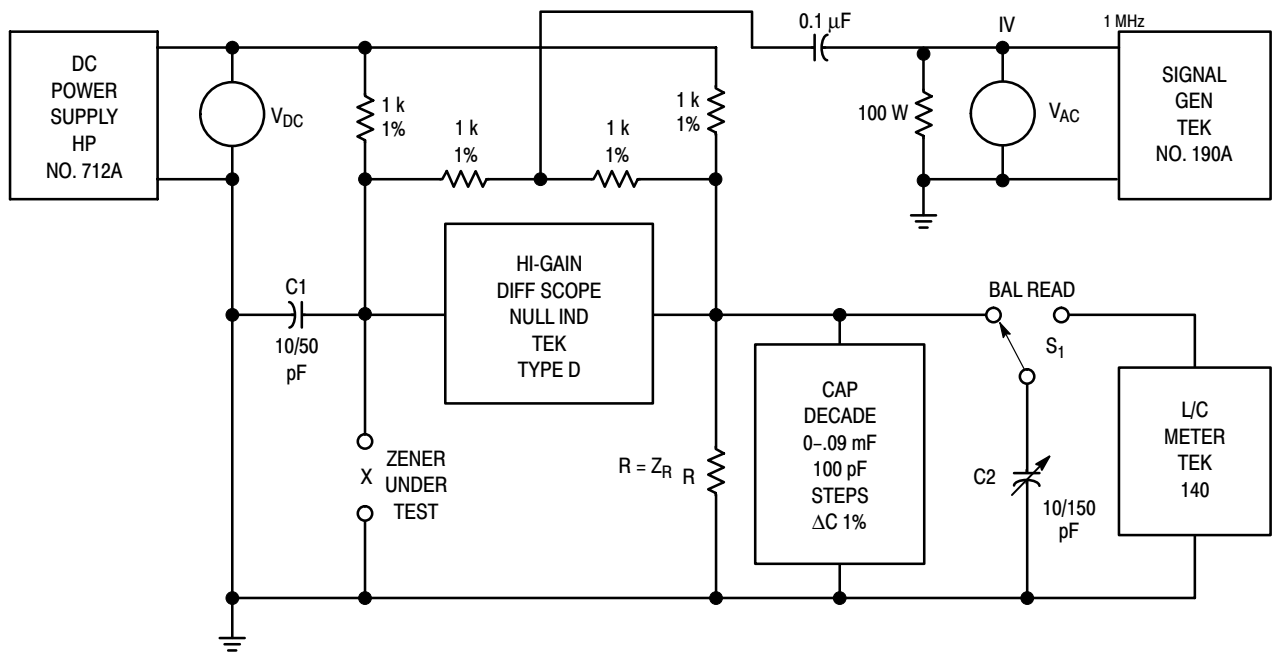

Figure 20. Capacitance Test Circuit
**TEST CIRCUIT CONSIDERATIONS:** A capacitive bridge was used to measure junction capacitance. In this method the zener is used as one leg of a bridge that is balanced for both DC at a given reverse voltage and for AC (the test frequency 1 MHz). After balancing, the variable capacitor used for balancing is removed and its value measured on a test instrument. The value thus indicated is the zener capacitance at reverse voltage for which bridge balance was obtained. Figure 20 shows capacitance test circuit.